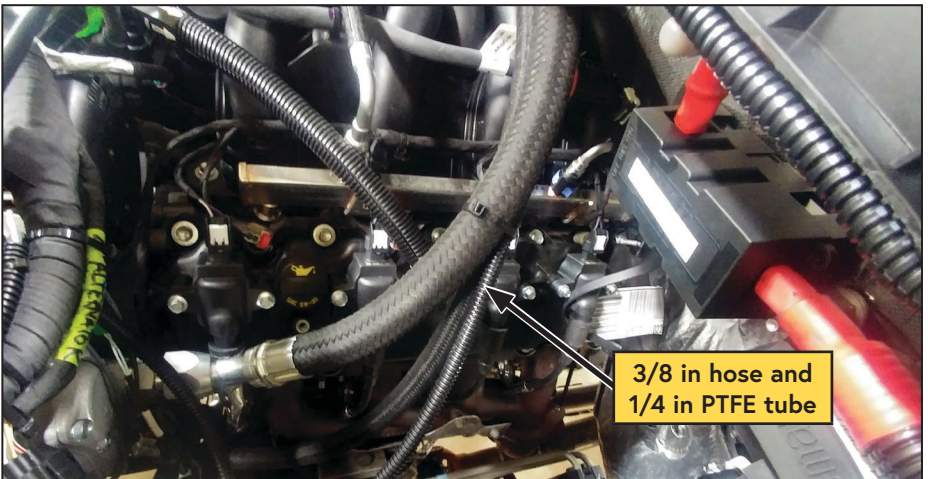

Figure 28 — Route hoses
- Route the 3/4 in hose toward the firewall and up, over the engine to the passenger side of the vehicle (Figure 28).
- Route the 3/8 in hose and 1/4 in PTFE tube toward the firewall, following the same route as the 3/4 in hose. Using the supplied cable ties, secure the hose and tube bundle to the 3/4 in hose (Figure 28).